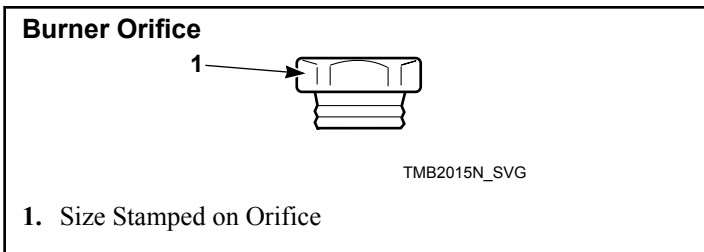

Figure 14
3. Install the new, correct burner orifice(s). Refer to *Figure 14*. Torque each to 9 – 10 Nm.
4. Reinstall spud holder assembly to gas valve, making certain burner orifice(s) are in line with burner tube opening. Refer to *Figure 14*.